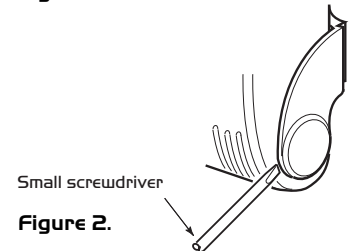

Figure 2.
- Carefully separate the indicator from the backplate using a small screwdriver. (see Fig 2). Note: the indicator will remain connected by its internal cable.